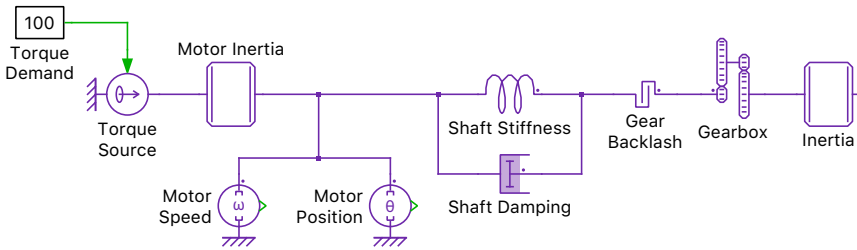

Figure 1: Motor and drivetrain
Care must be taken when connecting the gearbox component as the flange connected to the faster-moving shaft is marked with a dot (assuming a gear ratio of greater than 1). Additionally, a Rotational Backlash component can be used to model any gear non-ideal backlash. A model for the motor and driveline shaft is shown in Fig. 1.
- 3 Model the shaft stiffness and damping using the Torsion Spring and Rotational Damper blocks, respectively. Connect these components to the motor, as shown in Fig. 1.